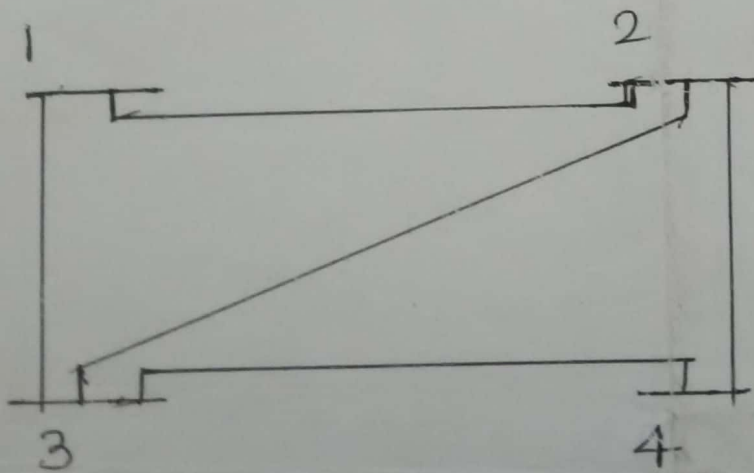

Fig 3
3. Fig 3 shows the one-line diagram of a simple four bus system. Table gives the line impedances identified by the buses on which these terminate. Find Y_{BUS} for the system.